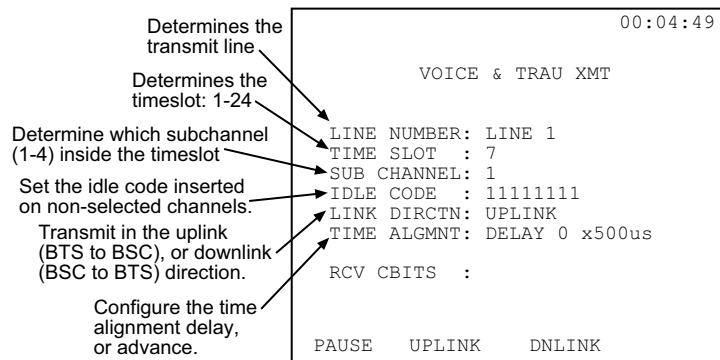

Figure 209 Voice & TRAU XMT Configuration Screen
3. Select OTHER MEASUREMENTS > GSM VOICE/TRAU/ BERT, VOICE/TRAU XMT and configure as shown in Figure 209.